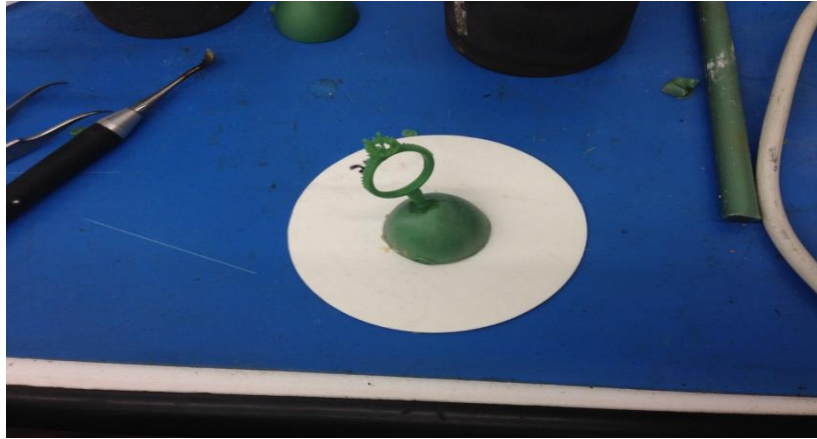

Figure 1: attaching the plastic ring to platinum base
1. First, prepare the wax-up (ring model) and investment material. The platinum base should be attached to the wax ring by using a wax sprue attached to a wax base as shown in Figure 1.